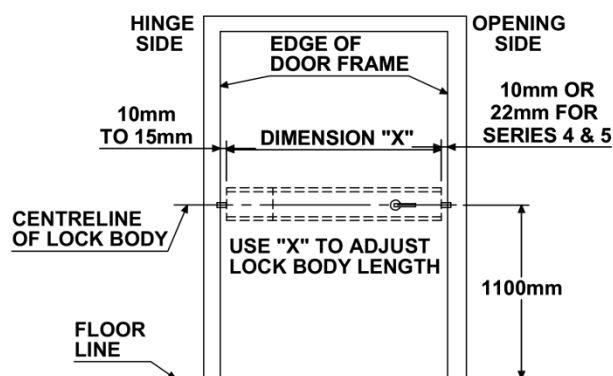

FIGURE 1
3. Mark centreline of lock across inside of door at desired height (nominally 1100mm from floor). (Fig. 1)
4. Mark position for end of lock (with door closed) on opening side 10mm from frame (20mm for Series 4 & 5 Locks). (Fig. 1)
5. Mark position for end of lock (with door closed) on hinge side 10-15mm from frame. (Fig. 1)